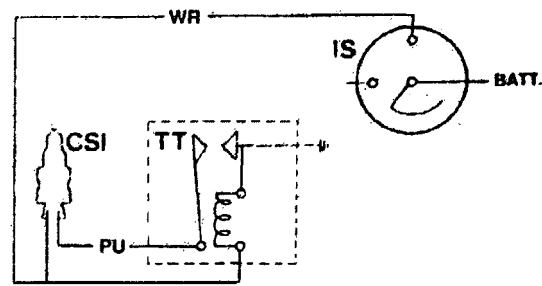

Fig.3.4 Thermo time switch
The thermo time switch (TT) seen in fig.3.4 contains a pair of contact points; one of which is mounted on a bimetal strip. A heater coil is fitted around the bimetal strip.